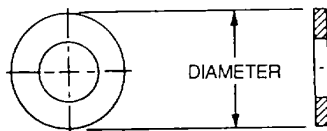

Figure 2-29. Plain Washer
a. Plain Washers. The AN960 plain washer, as shown in figure 2-29, is used under AN hexagon nuts to provide a smooth bearing surface. It acts as a shim in obtaining the correct relationship between the threads of the bolt and the nut. It will adjust the position of castellated nuts with respect to drilled cotter pin holes in bolts.
(1) Uses. The general rule is to use one washer under each nut. However, if one washer fails to cover the underthread grip or fails to place the nut in the proper position for cotter pins, then one more washer may be added. If more than two washers are needed, the bolt length should be changed. Other use criteria are as follows.